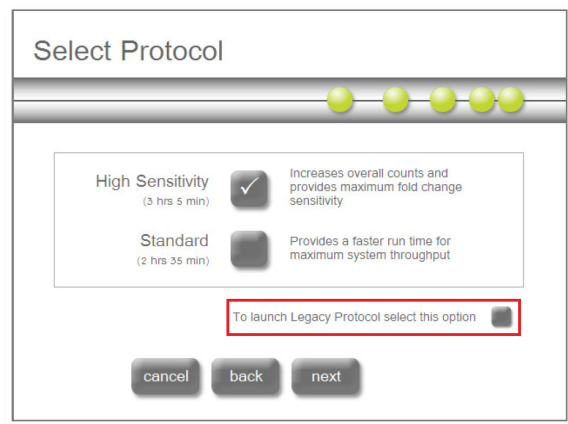

Figure 124: ‘Select Protocol’ screen
4. When you get to the sample designation screen, process all twelve ‘blank’ samples. On the ‘Select Protocol’ screen, check the box to launch the Legacy Protocol (**Figure 124**).